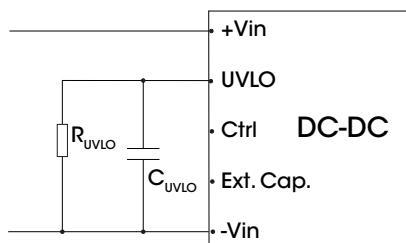

Figure 12.
3. The UVLO pin can adjust the point of input under-voltage protection by the external resistance  $R_{\text{UVLO}}$ , for the value of  $R_{\text{UVLO}}$ , please refer to Fig. 12. If the pin is open circuit, the point of input under-voltage protection is 11 V.
- The resistance  $R_{UVLO}$  sets the undervoltage protection point, for the value of  $R_{UVLO}$ , please refer to Fig. 12.